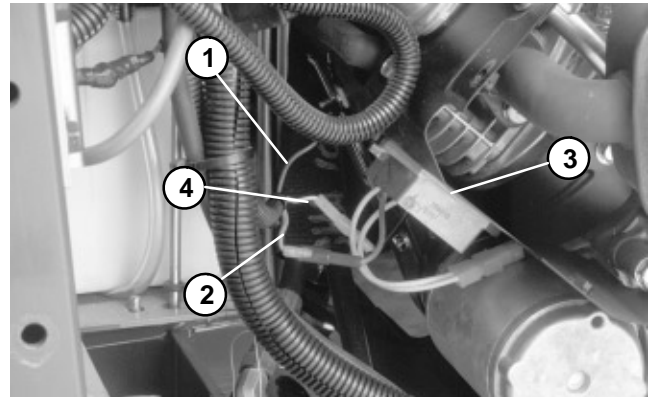

Figure 45
7. Disconnect wire harness as follows (Fig. 45):
5. Connect wire harness as follows (Fig. 45):